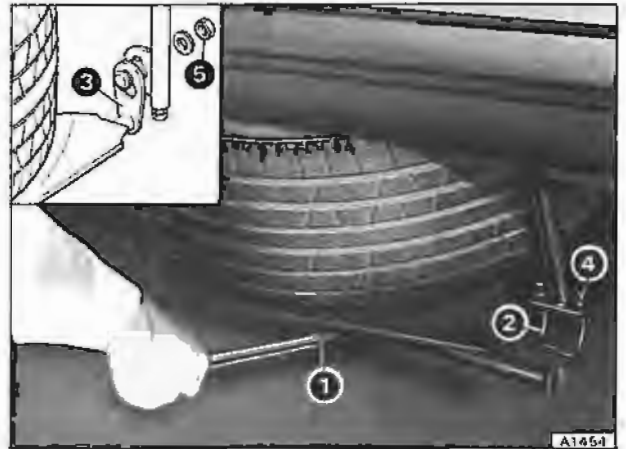

Fig. R2-8 Lowering the spare wheel and carrier adjustment
Spare wheel – To remove (see fig. R2-8)
5. If a spare wheel carrier lifting tube is fitted (see fig. R2-8, item 1) proceed as follows.
Spare wheel – To fit (see fig. R2-8)